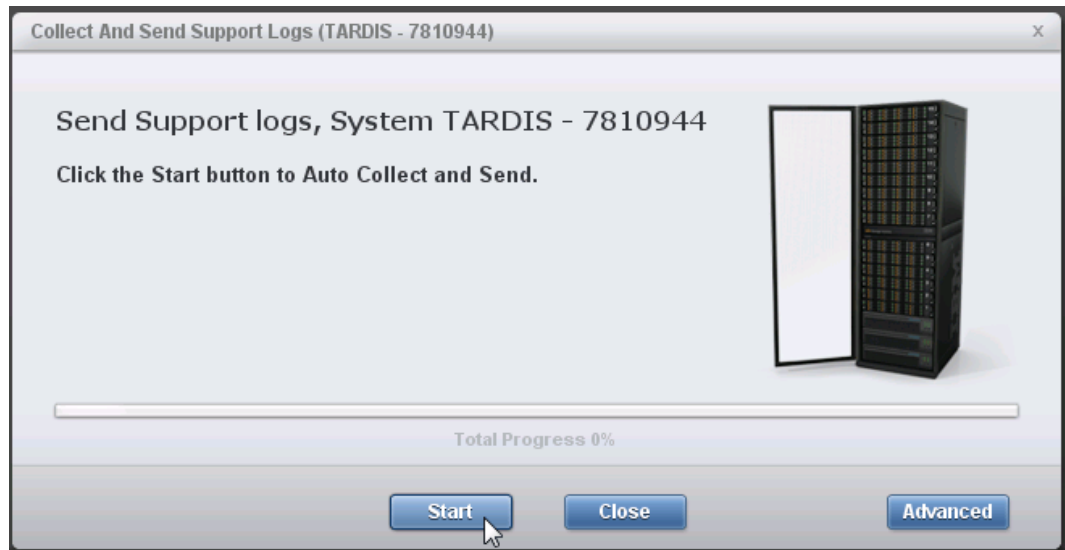

Figure 15-12 Collect the Support Logs
3. In the Collect And Send Support Logs dialog box (see Figure 15-12 on page 538), click **Start** to auto collect and send the data and upload to the predefined FTP server. If the FTP server is not reachable, save the file locally and upload it manually to the Problem Management Report (PMR) system.